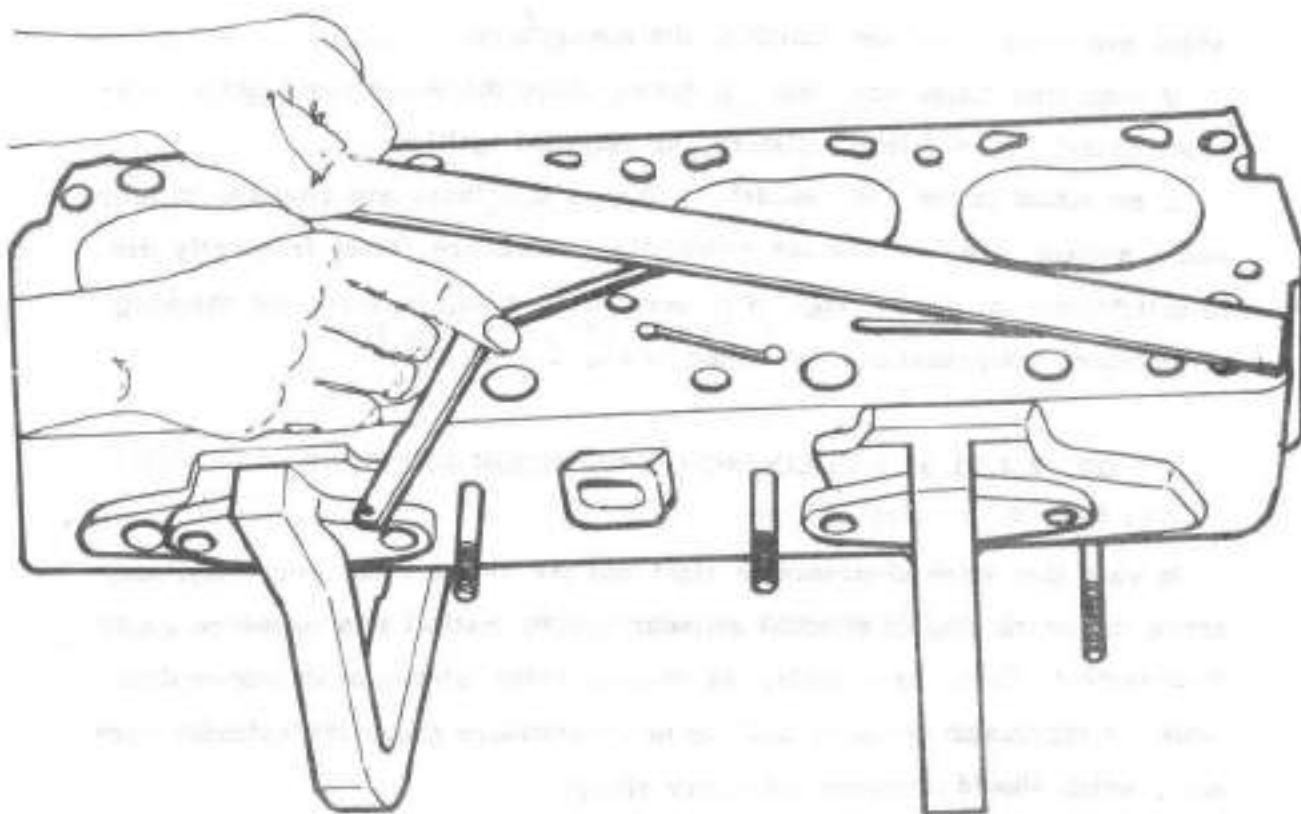

Fig. 4. 17. CHECING FLATNESS OF CYLINDER HEAD
- Check flatness of cylinder head by means of a metallic rule and a feeler gauges set, so as it is shown in the fig. 4, 17: